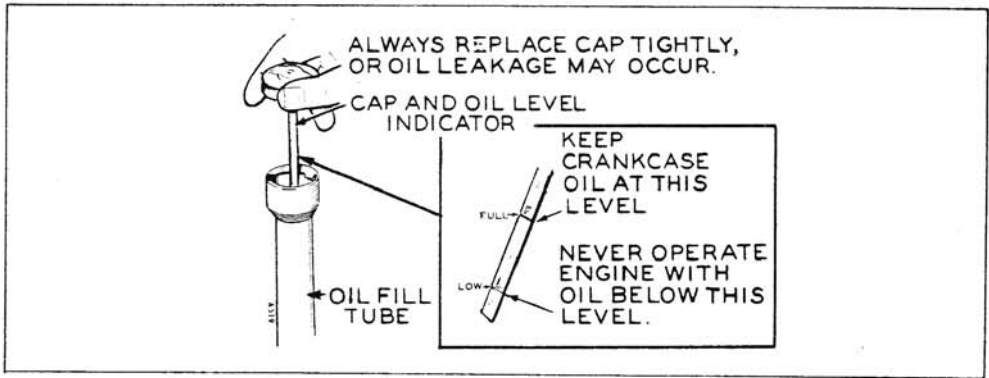

Fig. 9 Crankcase Oil Level
CRANKCASE OIL. - Table I gives the oil capacity. Be sure the plant is sitting level when filling. Fill to "F" (full) mark on the indicator, figure 9. Use a good heavy duty detergent oil classified for service "DG" or "MS/DG". Service "DS" oil is satisfactory, but is higher in cost. Use a single viscosity oil. Oil consumption is usually greater with multi-viscosity "all season" oil such as 10W-30. Use the proper SAE number oil for the compartment temperature conditions. Do not mix brands nor grades. Always reinstall indicator **AIR TIGHT.**
- C. - **OIL LEVEL.** Keep level to the F (full) mark on the indicator, figure 9. When adding, use the same brand as in crankcase.